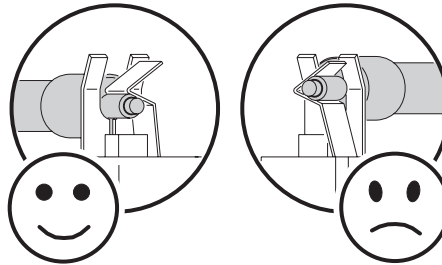

Figure 4: Lamp terminals
- Make sure that the terminals on the lamp sit below the V-section in the lampholder clips and not in the V-section itself, as shown in Figure 4.